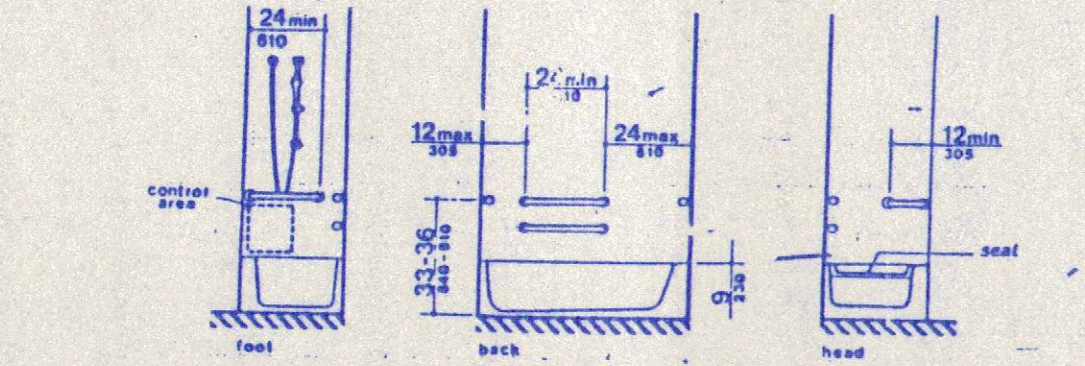

Fig. 34 Grab Bars at Bathtubs
4.20.5 Controls. Faucets and other controls complying with 4.27.4 shall be located as shown in Fig. 34.